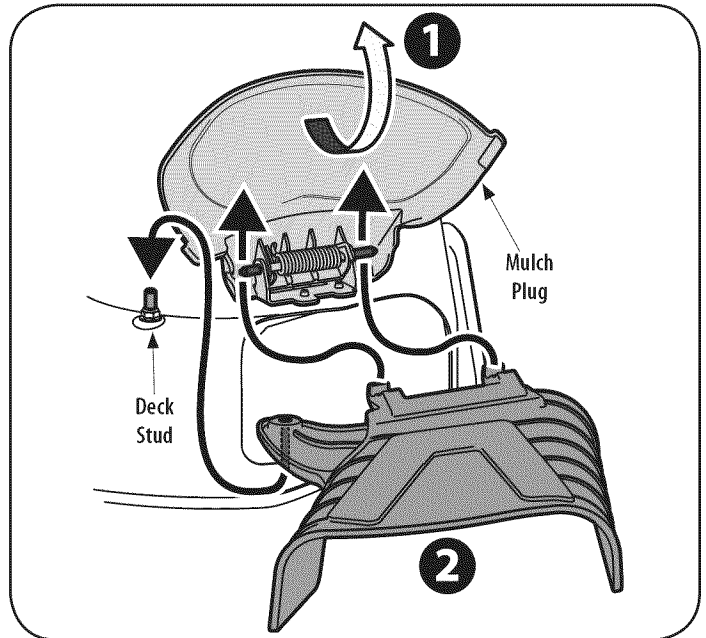

Figure 4
1. On the side of the mower, lift the mulch plug. See Figure 4.
2. Slide two hooks of side discharge chute under hinge pin on mulch plug assembly and position hole in the chute over and on to the deck stud located behind the discharge opening. See Figure 4. Lower mulch plug.